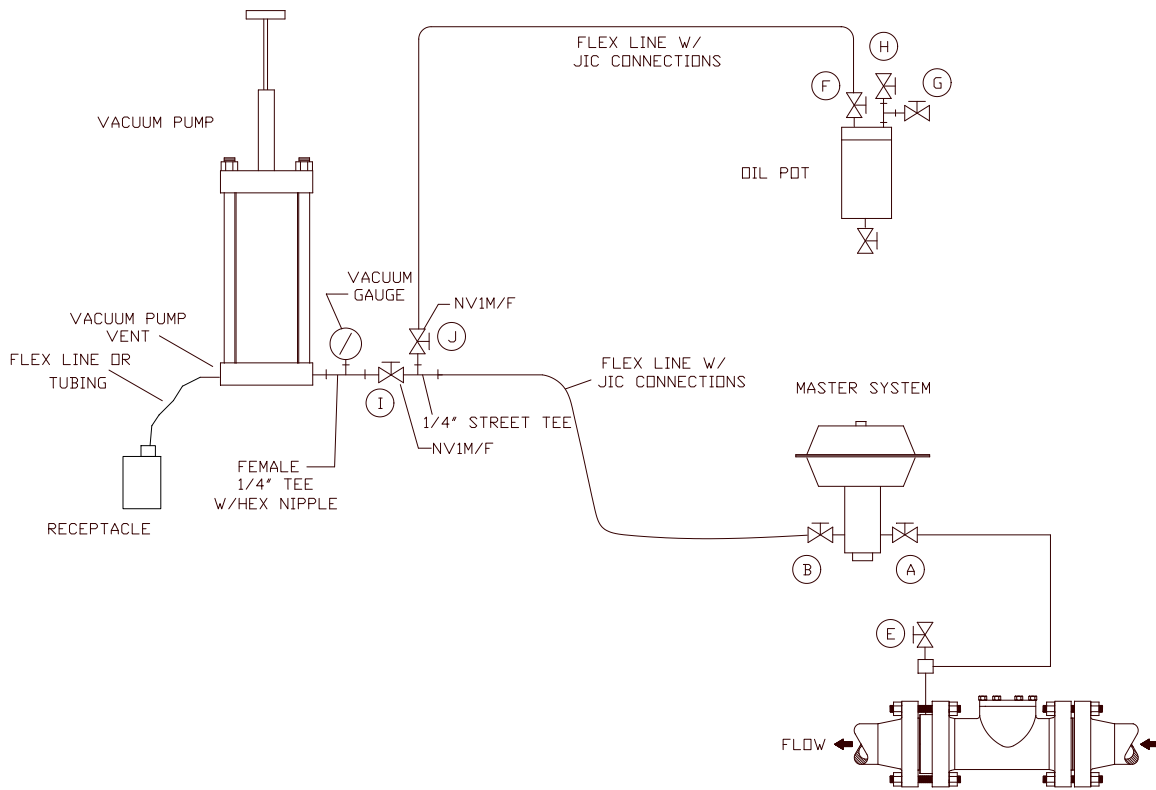

Figure 4
Method # 3 For Filling Hydraulic System over 4 feet (Figures 4 & 5, Pages 9-13)
5. Connect a piece of tubing or hose to the vent port on the vacuum pump (Figure 4) if this has not already been done. This will allow for the collection of any oil that may be in the flex lines and will allow for safe drainage into a receptacle. Open vacuum pump valve "I" (Figure 4, page 12).